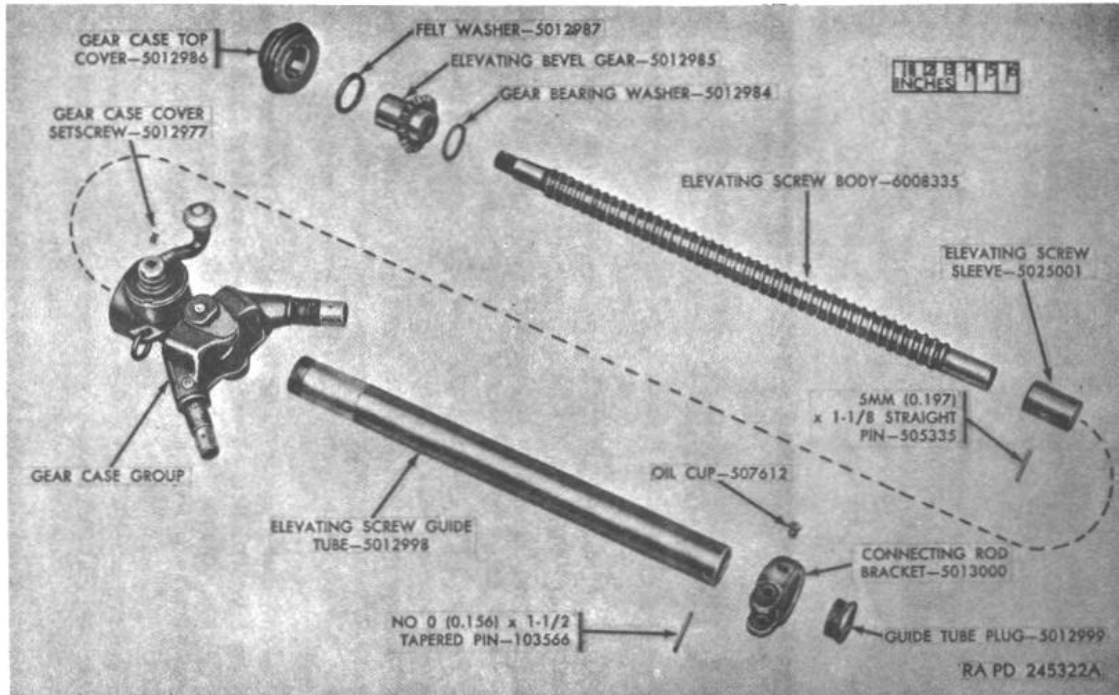

Figure 37. Elevating mechanism assembly 7228570-exploded view
c. Remove setscrew which secures gear case top cover (fig. 37) to gear case and unscrew gear case top cover, using spanner wrench 6128199 (fig. 8). Remove felt washer.
d. Unscrew elevating bevel gear from elevating screw body (fig. 37). Lift out gear bearing washer (fig. 37).
e. Pull elevating screw body completely out of the elevating screw guide tube (fig. 37).
f. Drive out straight pin and remove elevating screw sleeve front elevating screw body (fig. 37).
g. Drive out tapered pin and unscrew guide tube plug from bottom of guide tube (fig. 37).
h. Unscrew guide tube (fig. 37) from gear case only if absolutely necessary because they are bead-soldered.
i. The connecting rod bracket (fig. 37) is sweated to the guide tube and should not be removed unless absolutely necessary.
a. Screw elevating screw guide tube (fig. 37) into gear case group and bead-solder to case.
b. Align holes for oil cup of connecting rod bracket to elevating screw guide tube (fig. 37), if removed, and solder. Install oil cup.
d. Align elevating screw sleeve on elevating screw body and secure with 5-mm (0.197) x 1 1/2 8 straight pin (fig. 37). Insert into guide tube.
e. Install gear bearing washer (side with single slot leading and slot engaging stud) in gear case (fig. 37).
f. Place felt washer on elevating bevel gear and screw elevating bevel gear on elevating screw body (teeth leading) (fig. 37).
g. Screw gear case top cover (fig. 37) into gear case group, using spanner wrench 6128199 (fig. 8), and secure with gear case cover setscrew (fig. 37).